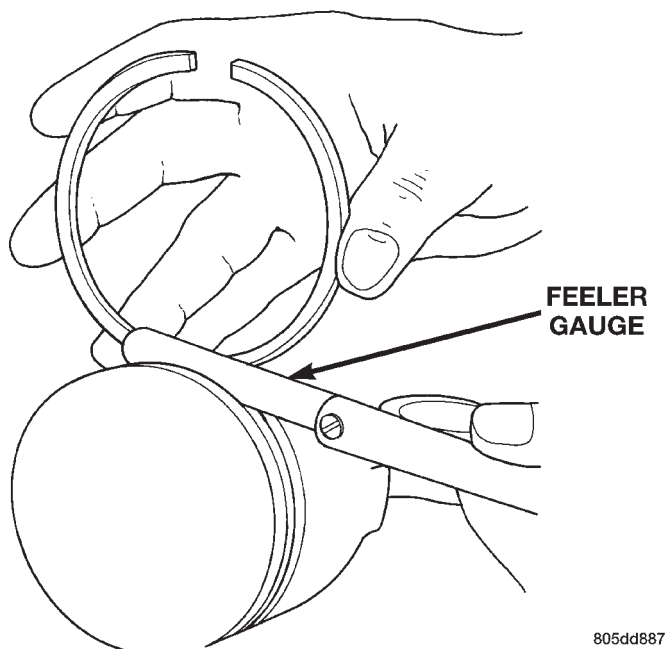
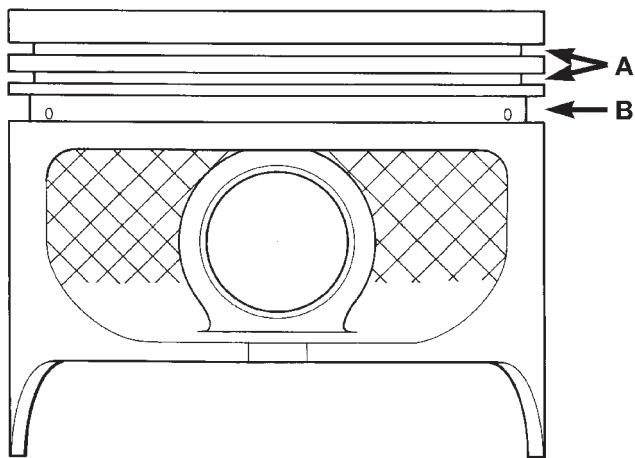

Fig. 8 Ring Side Clearance Measurement
Fig. 7 Piston Dimensions
(1) Carefully clean the carbon from all ring grooves. Oil drain openings in the oil ring groove and pin boss must be clear. **DO NOT** remove metal from the grooves or lands. This will change ring-to-groove clearances and will damage the ring-to-land seating.
(2) Be sure the piston ring grooves are free of nicks and burrs.
(3) Measure the ring side clearance with a feeler gauge fitted snugly between the ring land and ring (Fig. 7) (Fig. 8). Rotate the ring in the groove. It must move freely around circumference of the groove.